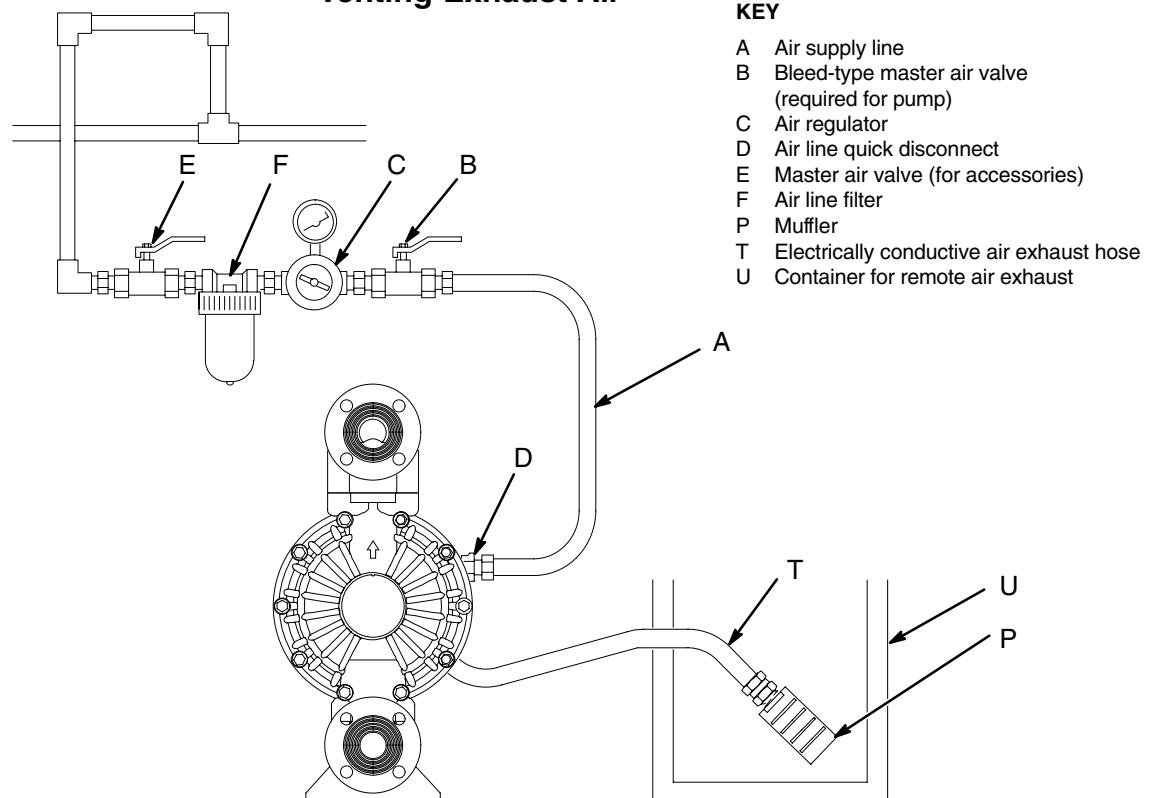

Fig. 6
Diaphragm failure will cause the fluid being pumped to exhaust with the air. Place an appropriate container at the end of the air exhaust line to catch the fluid. See Fig. 6.
1. Remove the muffler (P) from the pump air exhaust port.
2. Install an electrically conductive air exhaust hose (T) and connect the muffler (P) to the other end of the hose. The minimum size for the air exhaust hose is 3/4 in. (19 mm) ID. If a hose longer than 15 ft (4.57 m) is required, use a larger diameter hose. Avoid sharp bends or kinks in the hose. See Fig. 6.
3. Place a container (U) at the end of the air exhaust line to catch fluid in case a diaphragm ruptures.